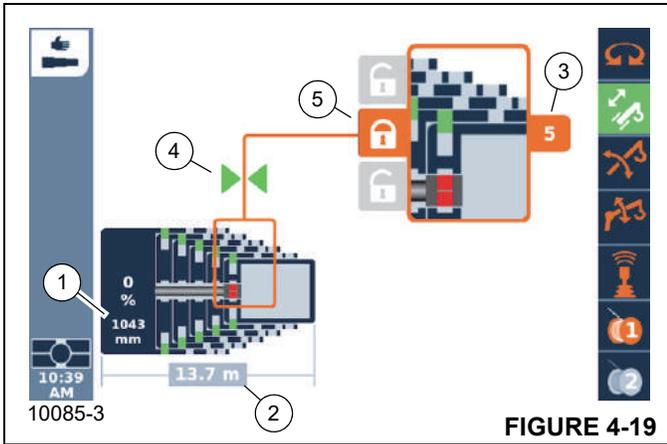

FIGURE 4-19
The display (1, Figure 4-19) shows how far the telescoping cylinder is extended, e.g. 1043 mm.
- The display (3, Figure 4-19) shows the corresponding telescopic section, e.g. telescopic section 5.
- The display (4, Figure 4-19) shows one or two arrows, depending on the distance to the locking point. The display (4) shows two arrows and the display (5) lock symbol appears orange when the telescope cylinder is at the locking point.